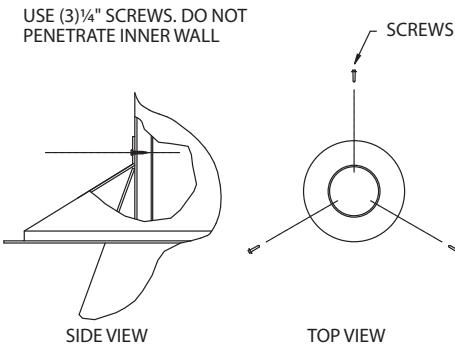

Figure 29
**(h). Storm Collar.** Slide the Storm Collar over the pipe down to top of the Flashing. Secure the Storm Collar in place with at least (3) 1/4" sheet metal screws (**Figure 29**). Do not penetrate the inner liner. The Storm Collar and Flashing will support the weight of the vent assembly. Use non-hardening sealant around the top of Storm Collar to make a weatherproof seal.
(g). **Storm Collar.** Slide the Storm Collar over the pipe down to top of the Flashing. Secure the Storm Collar in place with at least (3) 1/4" sheet metal screws (**Figure 29**). Do not penetrate the inner liner. The Storm Collar and Flashing will support the weight of the vent assembly. Use non-hardening sealant around the top of Storm Collar to make a weatherproof seal.